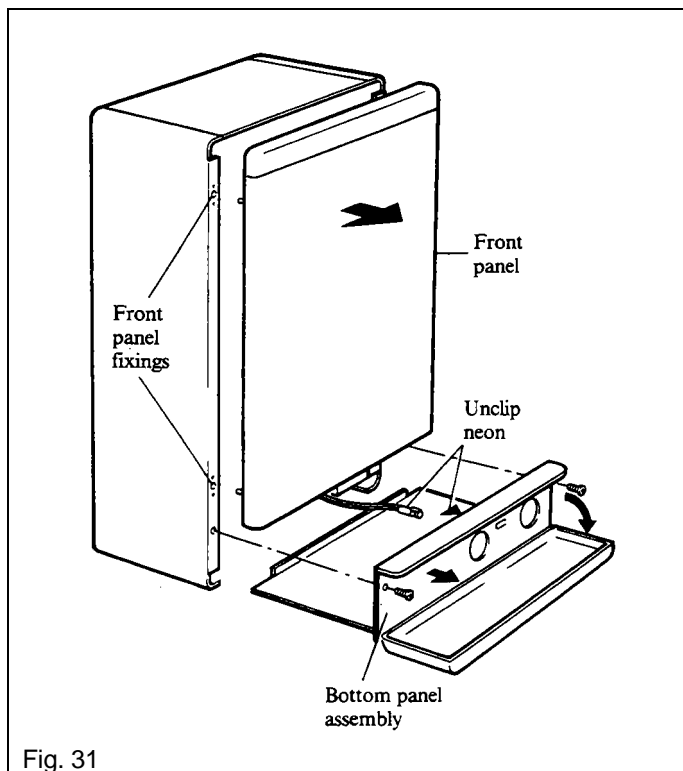

Fig. 31
Refer to Fig. 31.
2. Carefully slide the bottom panel assembly into position (the bottom panel goes above the returns on the case side panels), clip the neon, see Fig. 31, into its holder on the back of the control panel as the bottom panel is slid into position. With the control panel cover open, secure the control panel to the side panels with the two countersunk hd. screws previously removed.